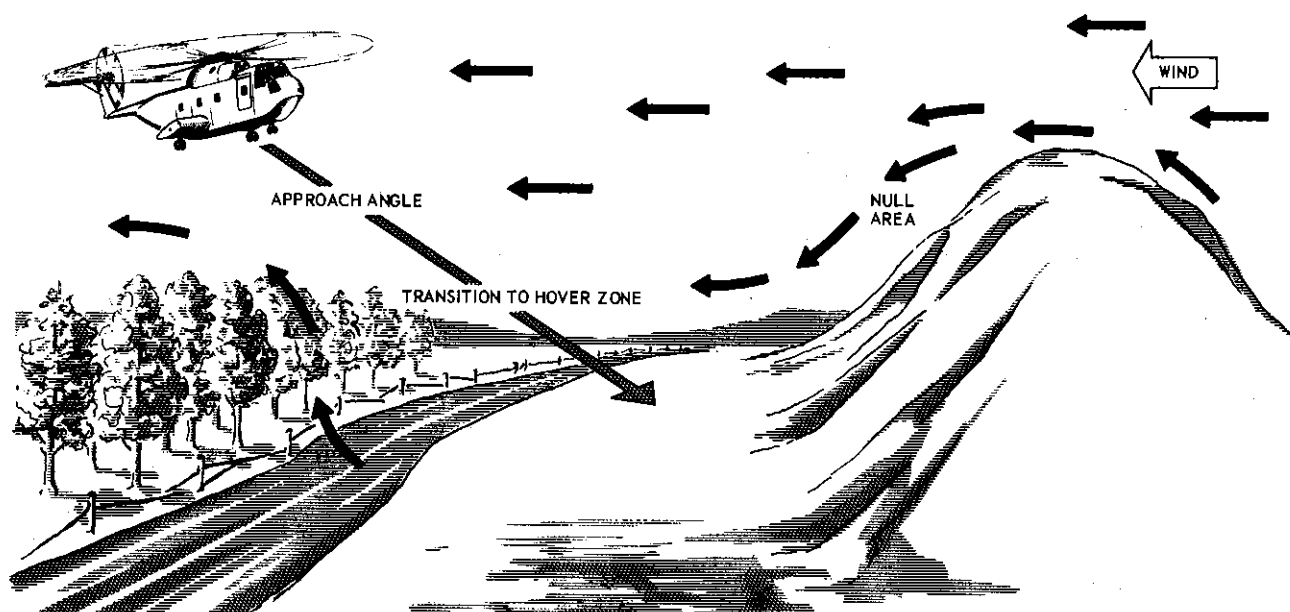

Figure 2-11. Wind Effect In A Confined Area
e. Evaluate the obstacles in the landing site and consider possible null areas and routes of departure (figure 2-11).